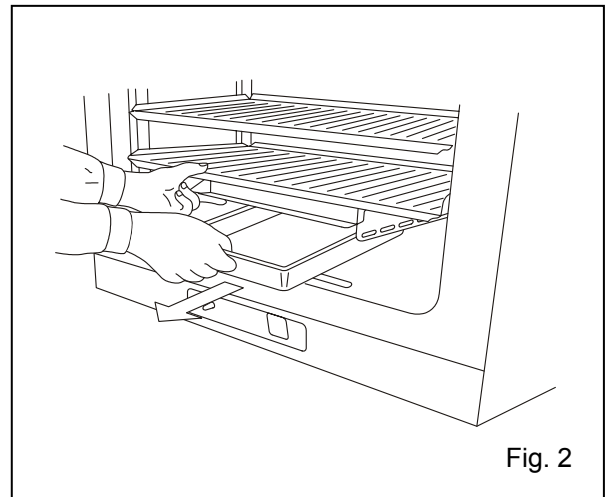

Fig. 2
4. By lifting up the humidifying pan cover, unhook it at the rear and remove the cover as shown in Fig. 2.
2. Pull out the humidifying pan toward you. See Fig. 2.